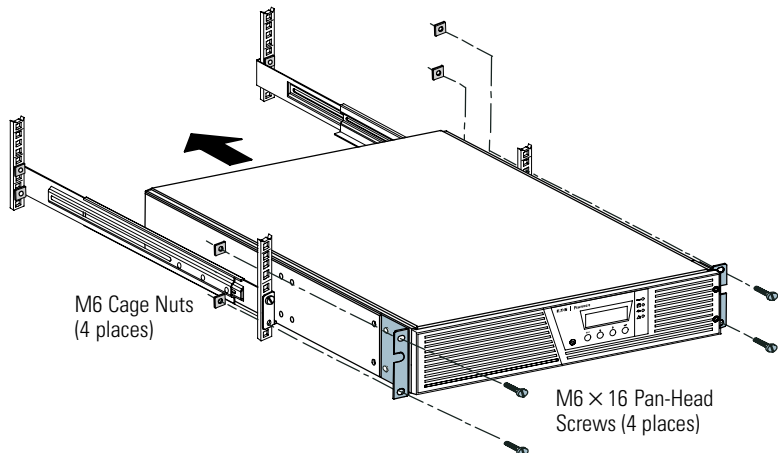

Figure 7. Securing the Front of the Cabinet
12. Secure the front of the UPS to the rack using two M6 x 16 pan-head screws and two M6 cage nuts on each side (see Figure 7). Install the bottom screw on each side through the bottom hole of the mounting bracket and the bottom hole of the rail.